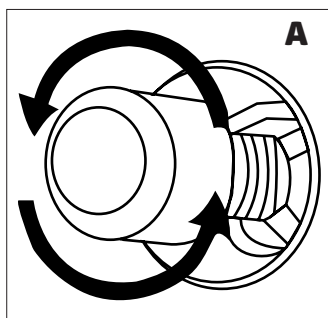
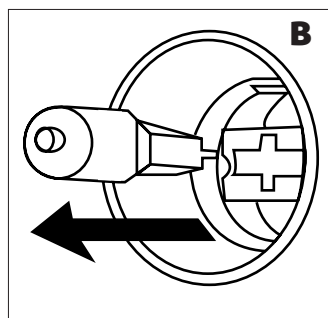

Figure 58
Figure 59
3. Then remove the oven lamp by turning it (see fig. 58) if it is type **A**, or by pulling it (see fig. 59) if it is type **B**.